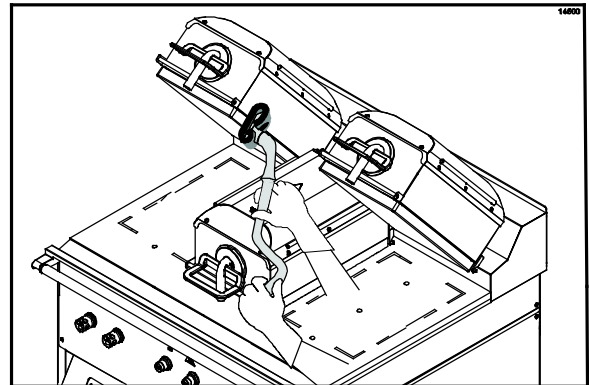

Figure 95
21. Apply grill cleaner to the inner edges of the right and left platens. (See Figure 95.)